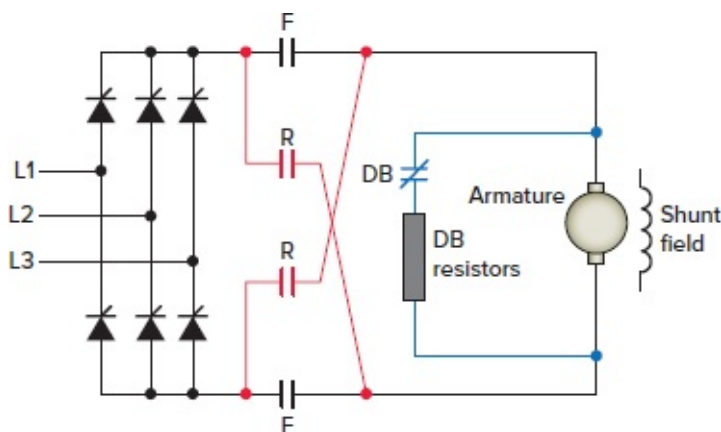

Figure 10-47 Nonregenerative DC drive with external dynamic braking and reversing contactors.
- In applications where supplemental quick braking and/or motor reversing is required, dynamic braking and forward and reverse circuitry, such as shown in Figure 10-47, may be provided by external means.